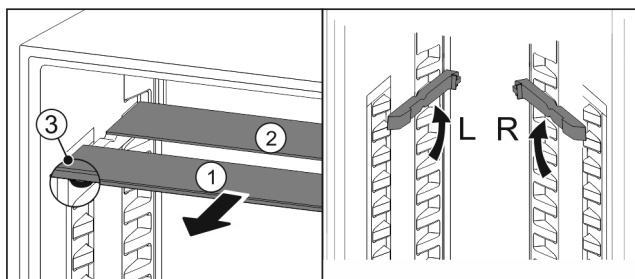

Fig. 100
- ▶ Pull the glass panels out Fig. 100 (1) from the front, one at a time.
- ▶ The glass panel Fig. 100 (1) and trim strip are at the front.
- ▶ The stops Fig. 100 (3) point down.